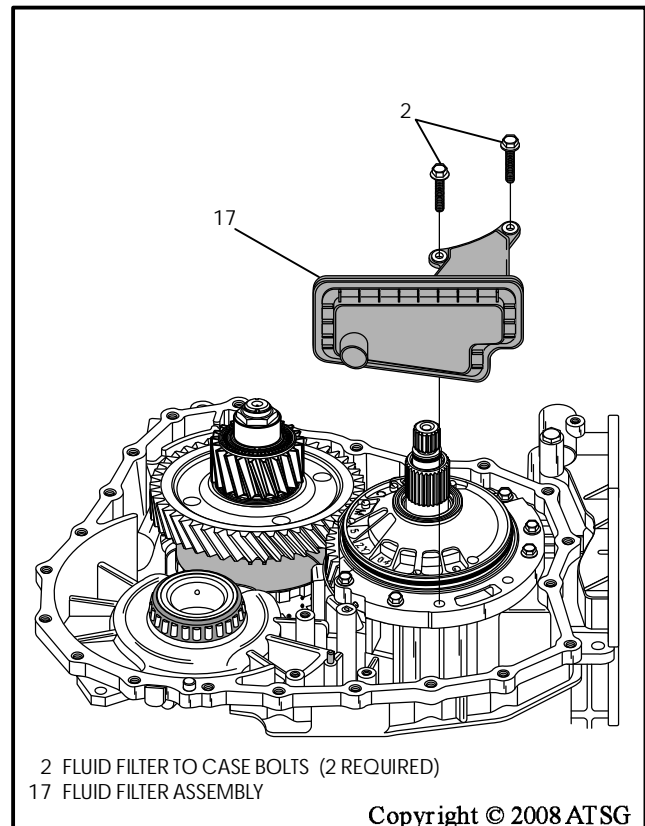

Figure 41
24. Remove the two fluid filter retaining bolts, as shown in Figure 41, remove and discard the fluid filter assembly.